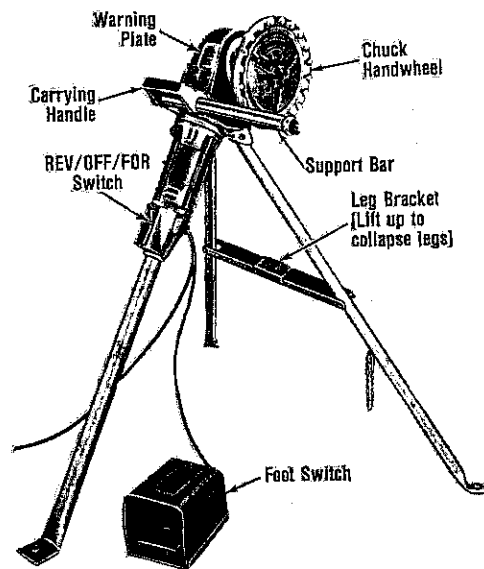

Figure 7. No. 270 Power Drive.
**Installing Pipe in Power Drive (Fig. 7)**
4. With Power Cord plugged in, turn REV/OFF/FOR Switch to FOR (forward) position (Fig. 7).
5. Place foot on Foot Switch (Fig. 7) to operate machine.
3. Turn REV/OFF/FOR Switch to FOR (forward) position (Fig. 7).
9. Turn REV/OFF/FOR Switch to REV (reverse) position (Fig. 7) and back off Threader by stepping on Foot Switch.
10. Release Foot Switch (Fig. 7) and turn REV/OFF/FOR Switch to OFF position.
1. Turn REV/OFF/FOR Switch to FOR (forward) position (Fig. 7).
3. Turn Power Drive REV/OFF/FOR Switch to FOR (forward) position (Fig. 7).
7. Turn REV/OFF/FOR Switch (Fig. 7) to REV (reverse) position.